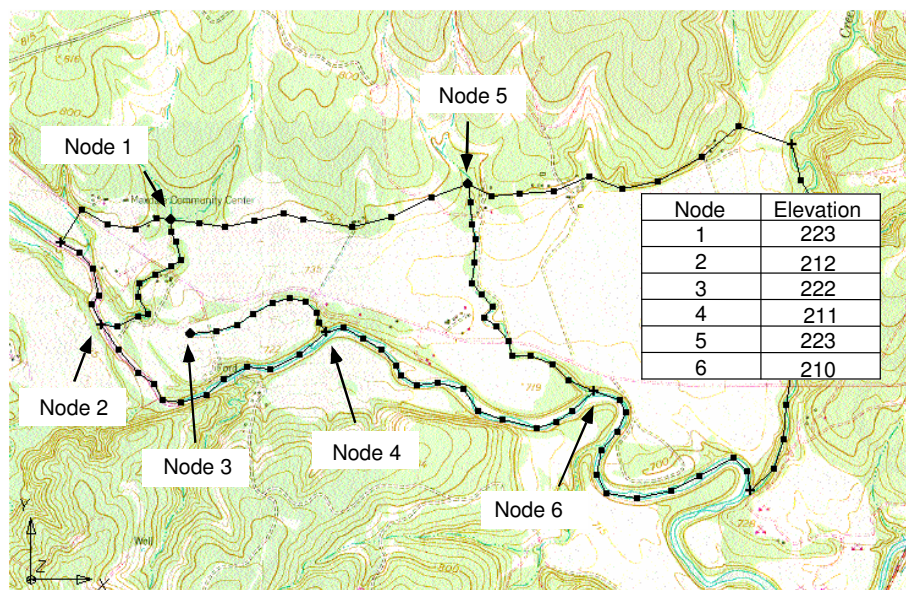

Figure 8-3 Elevations for Drain Nodes.
13. Figure 8-3. Notice that this node has 2 properties associated with it since it is attached to 2 arcs of different types.
16. Figure 8-3. Be sure to change the *drain* property only, and NOT the *spec. head* property.